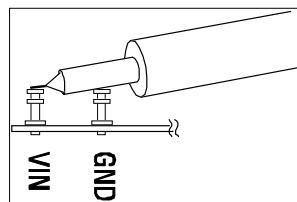

Figure 2. Measuring Input or Output Ripple
NOTE: When measuring the input or output voltage ripple, care must be taken to avoid a long ground lead on the oscilloscope probe. Measure the input or output voltage ripple by touching the probe tip directly across the Vin or Vout and GND terminals. See the proper scope probe technique in figure 2.
5. Set the load current of both outputs to 3A and the input voltage to 15V, and then measure each output ripple voltage (refer to figure 2 for proper measurement technique); they should each measure less than 30 mVAC. Also, observe the voltage waveform at either switch node (pins 23 & 24 for reg.1 and 13 & 14 for reg.2) of each regulator. The switching frequencies should be between 800 kHz and 1.2 MHz ( $T = 1.25 \mu\text{s}$  and  $0.833 \mu\text{s}$ ). To realize 2 MHz operation, change the shunt position on header JP14. In all cases, both switch node waveforms should be rectangular in shape, and 180° out-of-phase with each other. Change the shunt position on header JP11 to set the switch waveforms in phase with respect to each other. To operate the ckt.s in Burst Mode™, change the shunt in header JP8 to the Burst Mode™ position. When finished, insert shunts XJP1 and XJP2 to the OFF position(s) and disconnect the power.